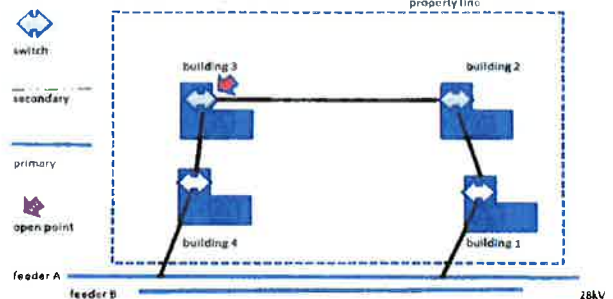

FIGURE 5: DRY TYPE TRANSFORMERS greater than 1,000kVA
4. If a customer insists on using dry type transformers, PowerStream will insist that a switching room will be required for each transformer. Room specifications will be by PowerStream, and must be part of the development's facilities. The switching rooms will permit PowerStream to maintain a loop feed and open point system, similar to the vault and padmount scenarios. The drawback is that PowerStream would not have control over the customer-owned transformers and cables; however, the primary loop system would allow lengthy outages to be limited to a single building. See Figure 5.